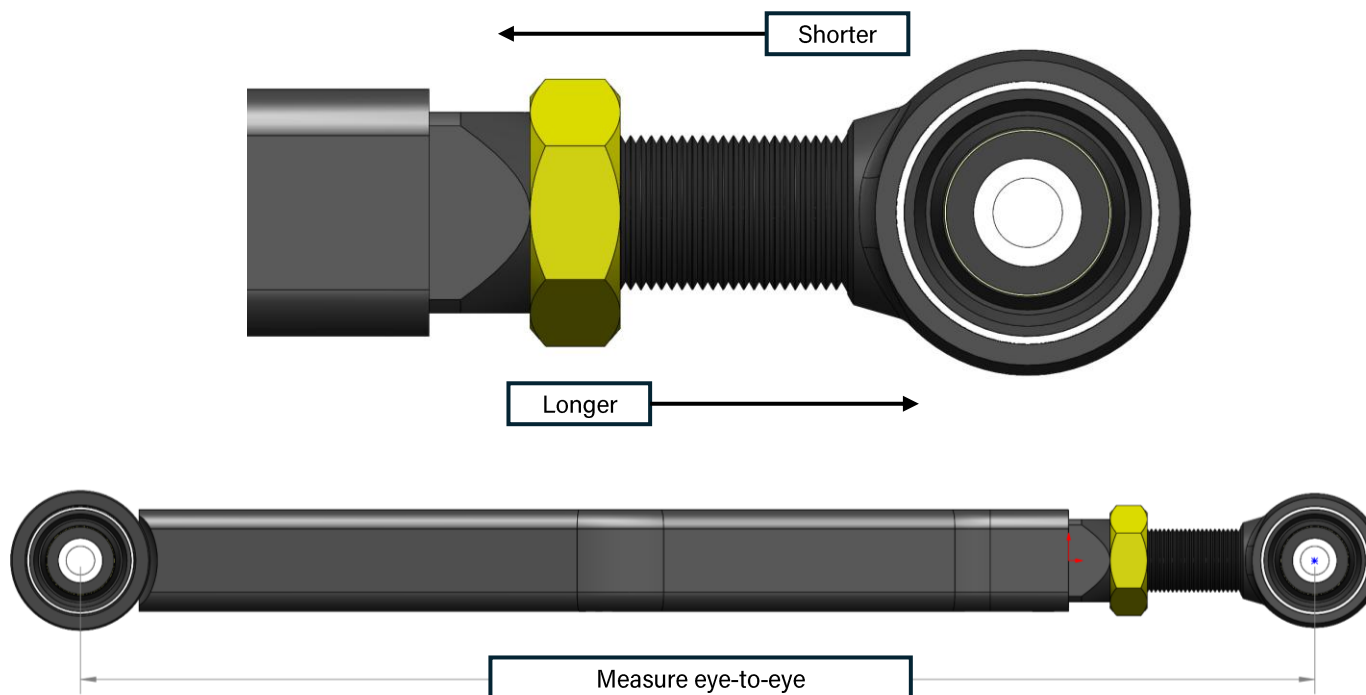

Figure 12: Front shock top and bottom bolt installed loosely
**NOTE: In Figure 12 below, the provided M12-1.75mm bolts were used with the bolt head facing the tires at the lower shock mounts. These bolts are provided to give proper clearance for the new lower square control arms.**